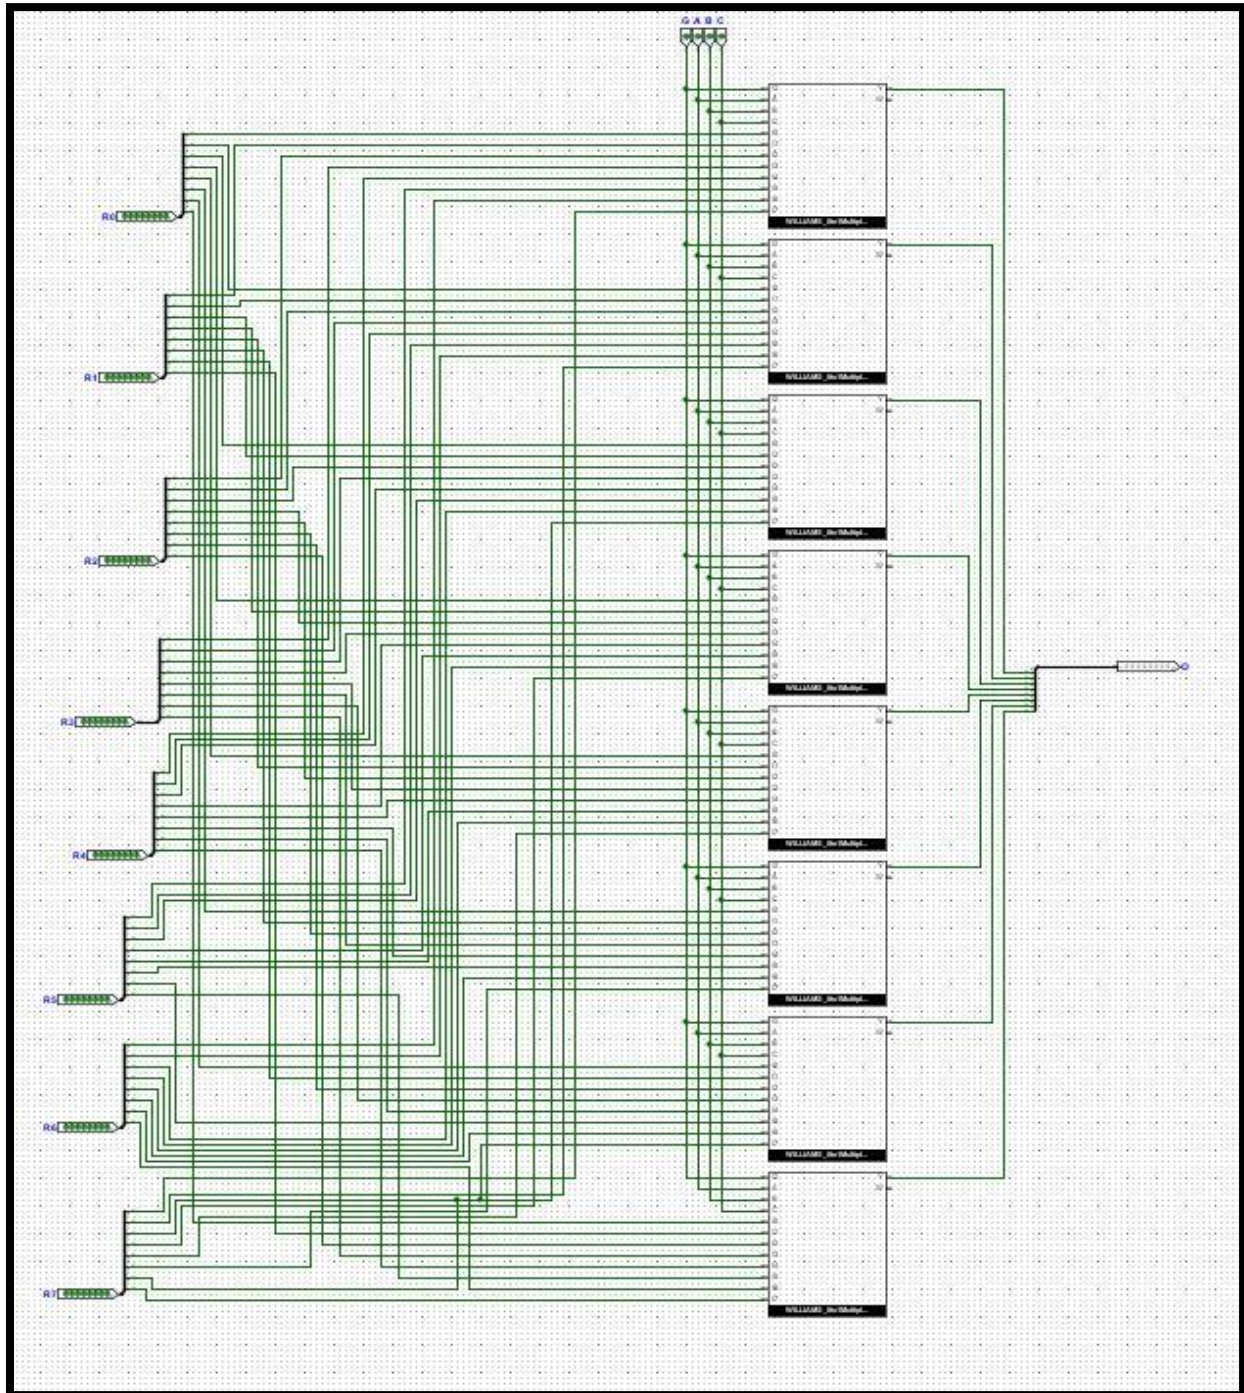
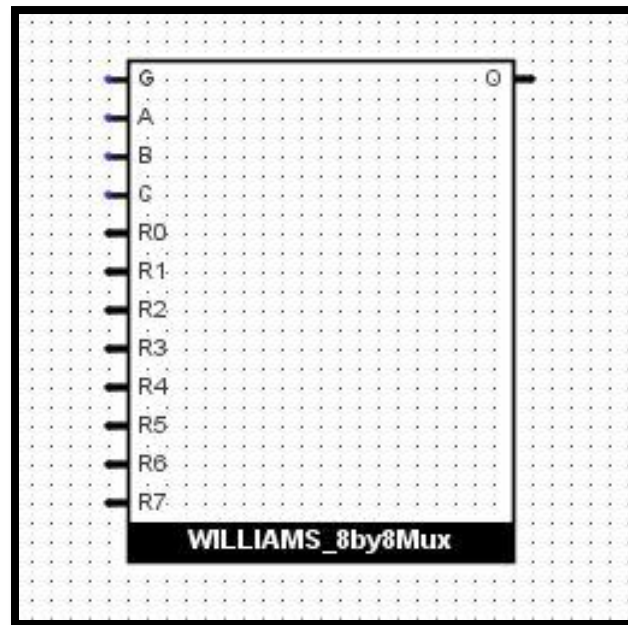

Figure 5. 8 by 8 Multiplexer Logic Diagram
Figure 6. 8 by 8 Multiplexer Chip Representation
Figure 5 shows the connected 8 by 8 Multiplexer Logic Diagram.
Figure 6 represents the 8-bit tristate buffer chip formatted from figure 5 8-bit Buffer Logic Diagram. The enable G1 pin serves as a Control Port for reading register data. The select lines of the multiplexer are width of 3-bits. This is accomplished by employing (2) 8-1 multiplexer pairs, with one pair using selection lines from Port 1 and the other using selection lines from Port 2